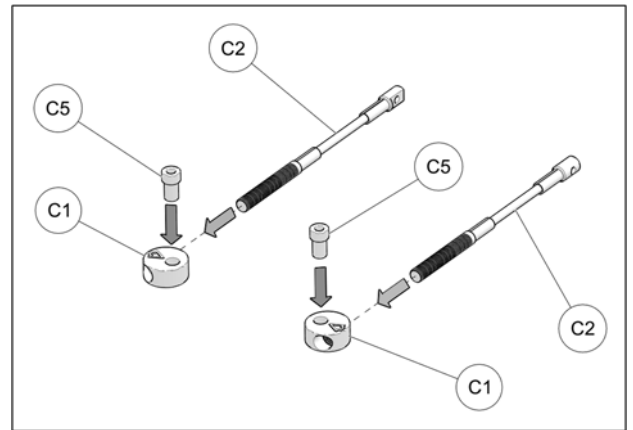

Fig. 20
- Verify that spring assembly bolt (6) is tightened to the recommended torque specification: 75 N•m [55 lb•ft]. Refer to Fig. 20
- Assemble steering limiter cables (C2), aluminum disks (C1) and step spacers (C5) together as shown on Fig. 20